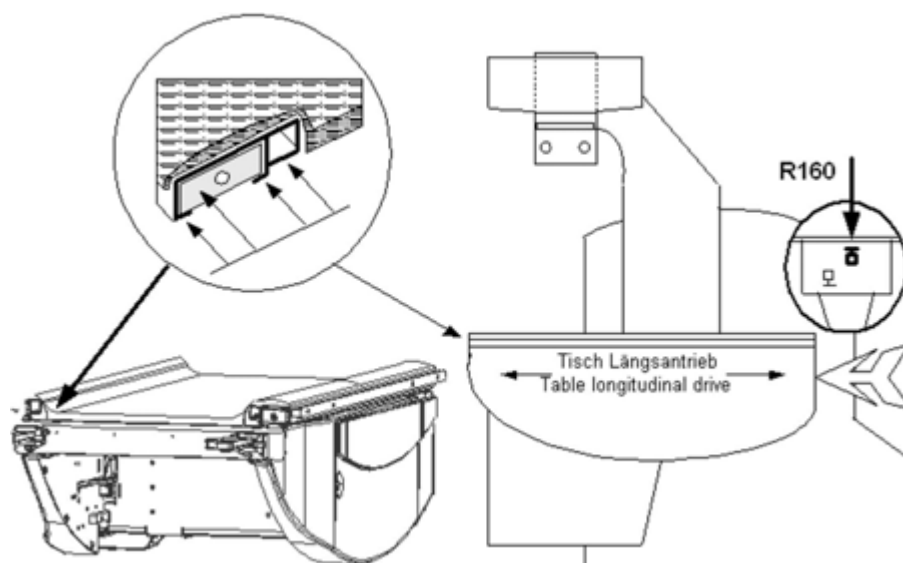

Fig. 30: Adjustment - tabletop longitudinal
- Use the service keys to move the tabletop longitudinal drive to the reference position at foot end (Fig. 30 / p. 52).
The reference position is the tabletop flush with frame (+/- 1 mm) at the foot end (Fig. 30 / p. 52).
Access: At table head end (see arrow (Fig. 30 / p. 52)).